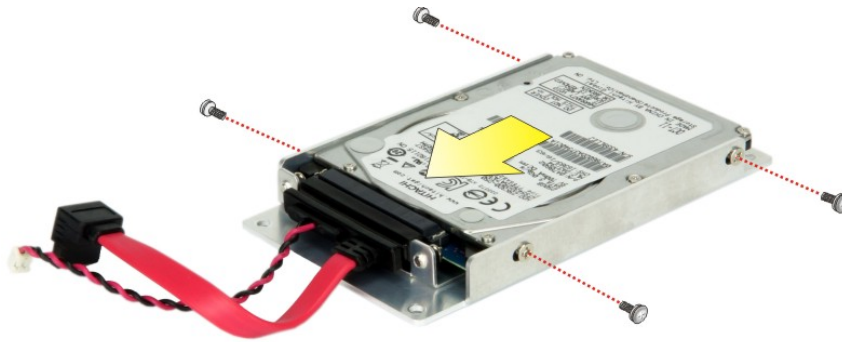

Figure 3-3: Inserting the HDD
- Step 3:** Insert an HDD into the bracket until the HDD is firmly connected with the SATA cable connector. Secure the HDD to the bracket using four retention screws (M3*4), two screws on each side. See **Figure 3-3**.